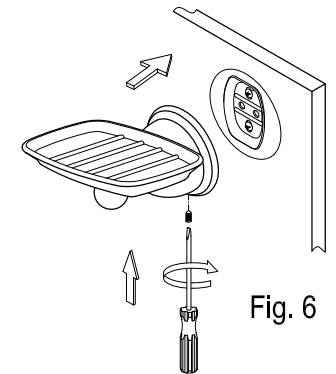

Fig. 6
- Step 5. Place the unit, with the small hole in the base underneath, over the mounting plate by tightening the slotted set screw with a flat head screwdriver until the base is tightly fixed (fig 6).